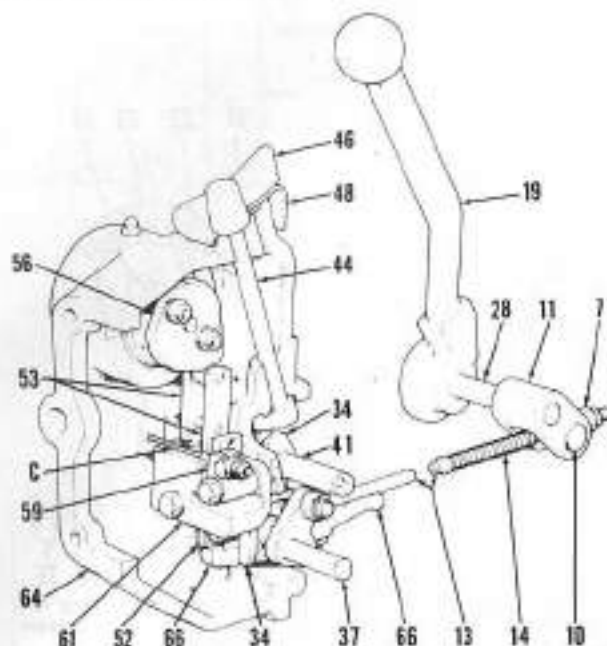

Fig. 206—Assembly view of control lever and control mechanism. Refer to Figs. 204 and 205 for exploded view of control lever and mechanism.
To remove and disassemble control mechanism from rockshaft bracket, proceed as follows: Disconnect flexible cable (C—Fig. 206) and withdraw cable from bracket. Remove guide bracket (81—Fig. 203) and push rods (52 & 53), then unbolt and remove control valve assembly from bracket. Unbolt and remove cam (56) and withdraw rockshaft from bracket. Remove snap ring (40) and connecting rod (13) from rocker shaft (37). Drive spring pin (35) from selector fork (34) and remove expansion plug (63) from right hand side of bracket by drilling hole through plug and prying it out. Drive selector rod (41) out and remove fork (34), catching detent ball (36) as rod is removed from bracket. Extract spring (42) with wire hook.
Fig. 204—Exploded view of control lever housing assembly. Note that connecting rod (13) is also shown in exploded view of control mechanism (rockshaft right hand support bracket) housing. Refer also to assembly drawing in Fig. 206.
Fig. 205—Exploded view of hydraulic system control mechanism that is mounted in rockshaft right hand support bracket (64). Note that connecting rod (13) is also shown in Fig. 204. Refer also to the assembly view in Fig. 206.